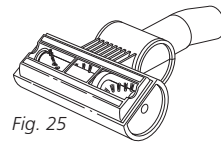

Fig. 25
- 3 Turn the turbo brush over to inspect the rotating brush and cut away any build-up of hair or string wrapped around the rotating bristle brush with scissors. (Fig. 25)